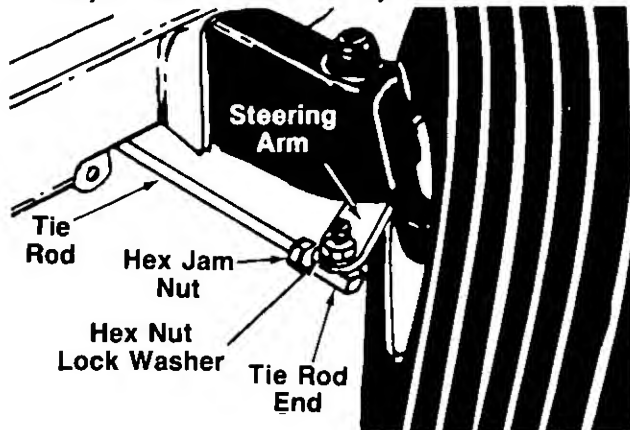

FIGURE 22.
1. Remove the hex nut and lock washer, and drop the tie rod end from the wheel bracket. See figure 22.